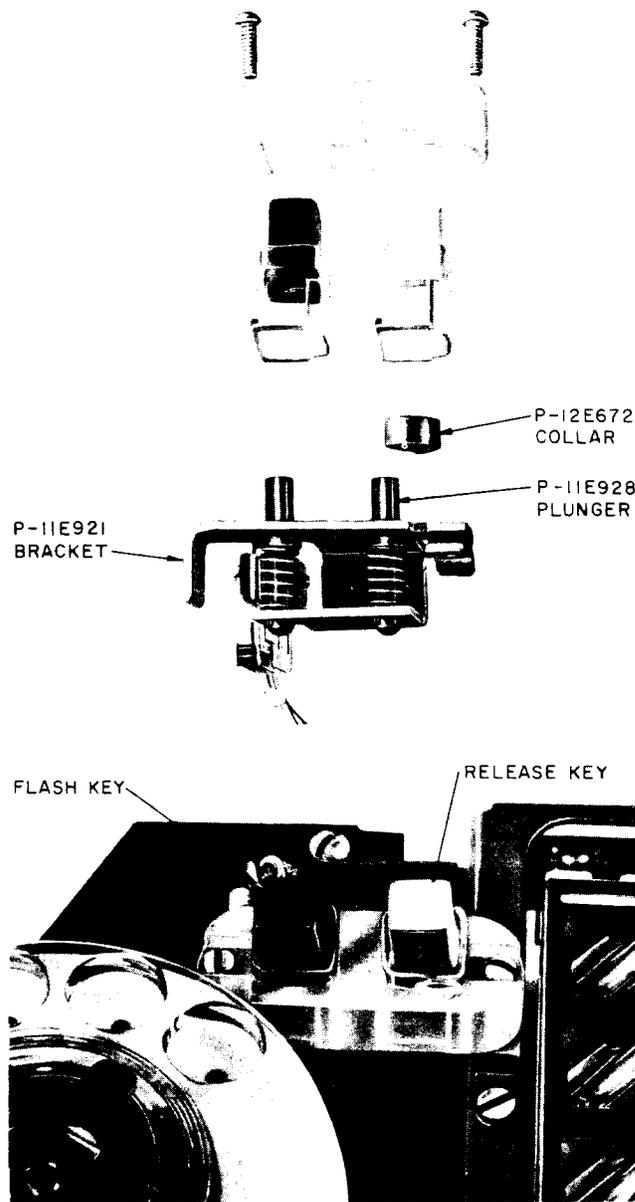

Fig. 10—P-11F987 Switch Assembly
- (1) Remove faceplate assembly.
- (2) Remove two switch assembly screws (Fig. 10).
- (3) Remove button assembly.
- (4) Place P-12E672 collar around P-11E928 plunger (Fig. 10).
- (5) Reassemble switch assembly.